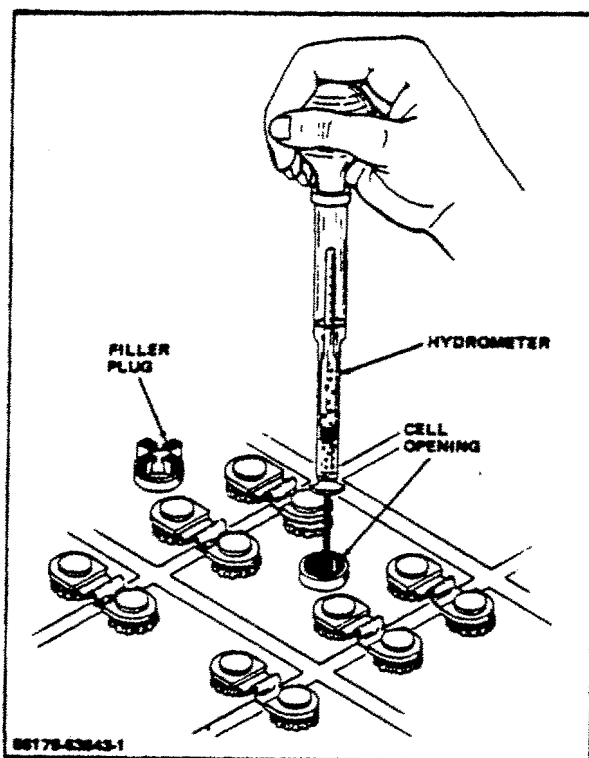

Figure 3-1. Checking Specific Gravity
2. Check Specific Gravity Daily, check the specific gravity (Fig 3-1) of the electrolyte; specific gravity should be above 1.260. Check specific gravity daily at least at the center cells and weekly at all of the cells. When only the outer cells are checked, it will not necessarily indicate the true condition of the battery. After specific gravity is checked, return electrolyte to same cell from which it was taken.